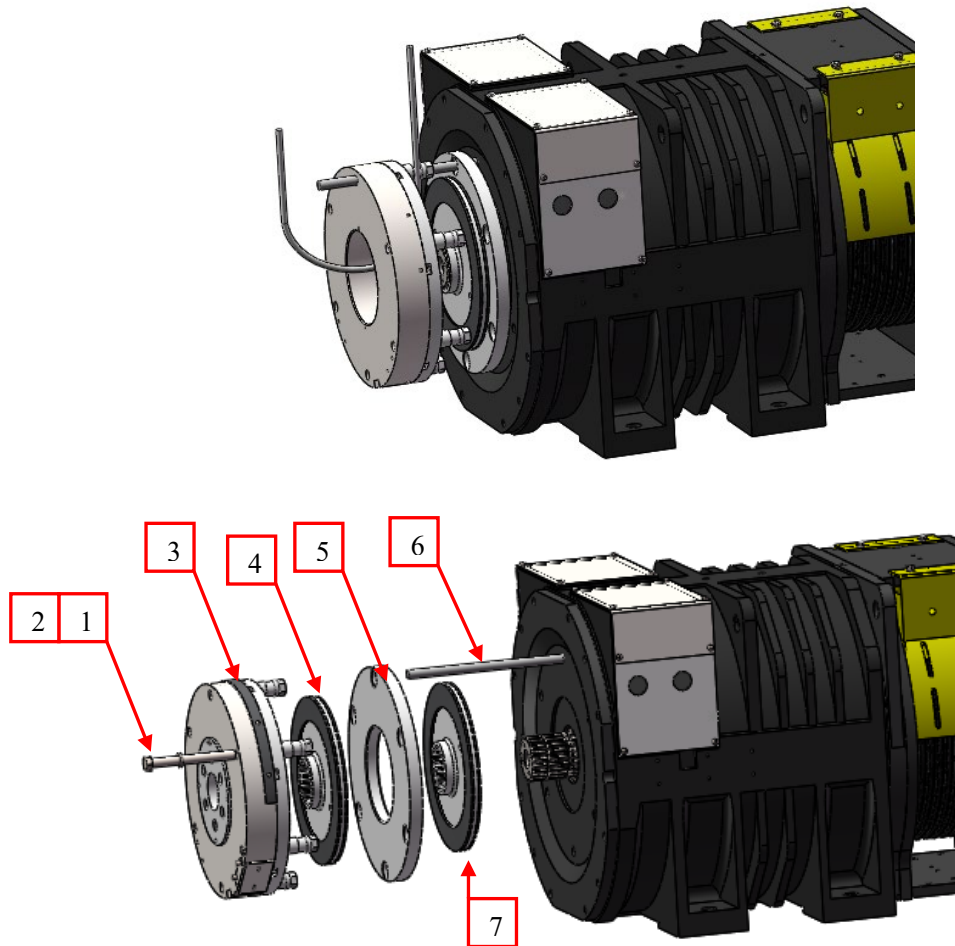

Figure 50 Remove Normal Brake (TMGL2/2A/3)
9. Remove other 5 bolts M16x165 evenly, move out the normal brake, and then hoist out the brake with hoisting ropes and remove brake coil body and friction lining. See Figure 50.